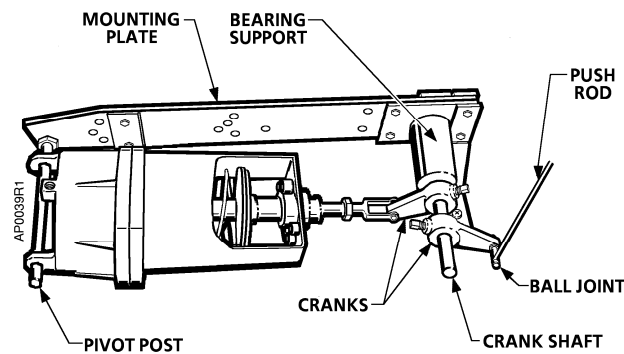

Figure 3. Remote Mounting Kit 331-618 with 331-2856 Actuator Mounted.
Remote mounting kit (extended shaft), Figure 3	331-618
- When the actuator cannot be directly mounted, drive the extended damper shaft using the Remote Mounting Kit 331-618 and Actuator 331-2856. See Figure 3.